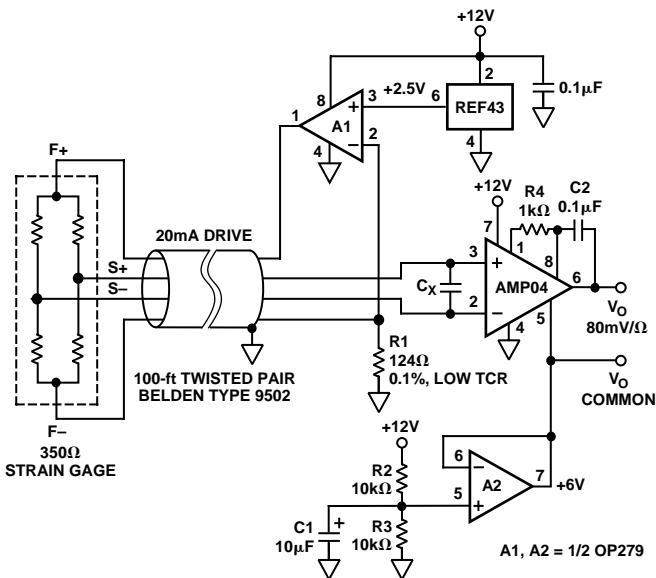

Figure 32. A Single Supply, Remote Strain Gage Signal Conditioner
The circuit in Figure 32 illustrates a way by which the OP179/OP279 can be used in a +12 V single supply, 350 Ω strain gage signal conditioning circuit. In this circuit, the OP179/OP279 serves two functions: (1) By servoing the output of the REF43's +2.5 V output across R1, it provides a 20 mA drive to the 350 Ω strain gage. In this way, small changes in the strain gage produce large differential output voltages across the AMP04's inputs. (2) To maximize the circuit's dynamic range, the other half of the OP179/OP279 is configured as a supply-splitter connected to the AMP04's REF terminal. Thus, tension or compression in the application can be measured by the circuit.